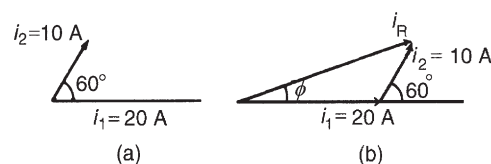

Figure 14.12
- The relative positions of i_1 and i_2 at time $t = 0$ are shown as phasors in Fig. 14.12(a). The phasor diagram in Fig. 14.12(b) shows the resultant i_R , and i_R is measured as 26 A and angle ϕ as 19° or 0.33 rads leading i_1
- From Fig. 14.12(b), by the cosine rule: